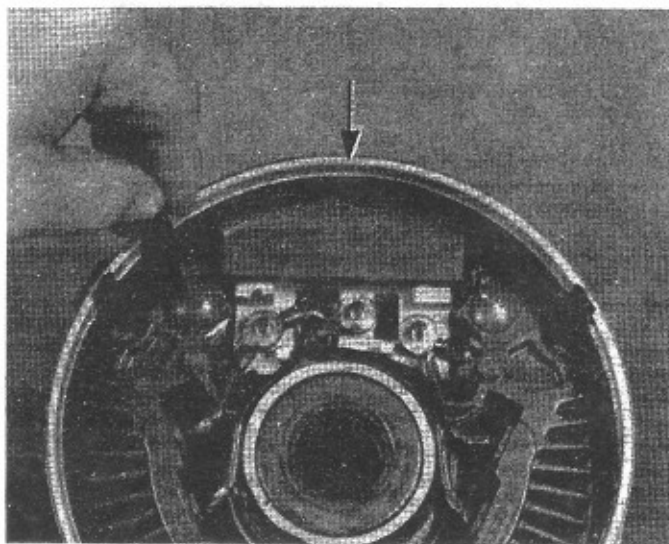

Figure 8
- 8.1 Connect one test lead to the positive (+) output terminal and the other test lead to any bare metal surface on the SRE housing. Repeat this procedure with the negative (-) output terminal (Fig. 8). If test light turns on or if a low resistance reading is observed, then rectifier assembly is grounded. Further disassembly necessary to locate inadequate insulator(s). Continue with step 9 to establish if rectifiers are in good working condition.